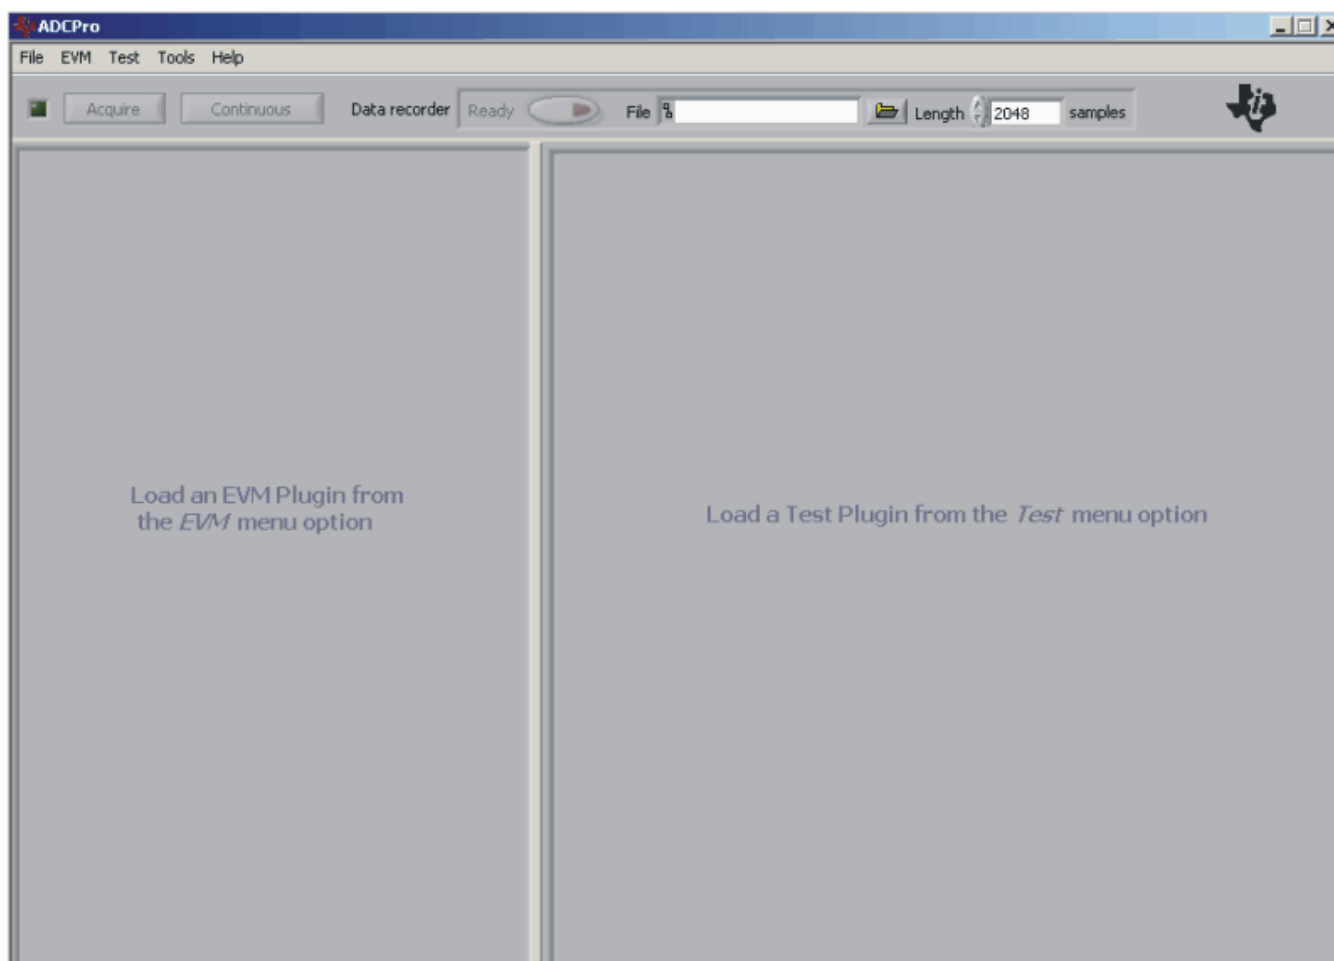

Figure 14. ADCPro Software Start-up Display Window
Step 1. Start the software by selecting *ADCPro* from the Windows Start menu. The screen in Figure 14 appears.